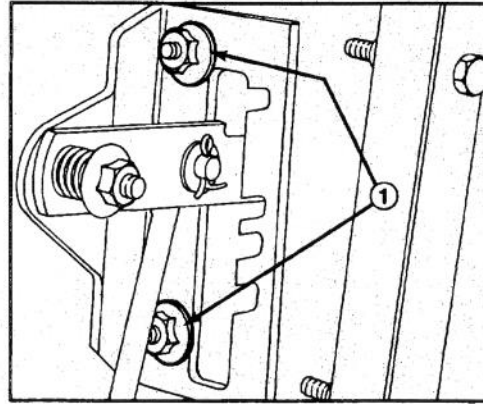

Figure 28
2. Loosen flange nuts securing selector plate to escutcheon plate. This allows selector plate to move freely for adjustment (Fig. 28).